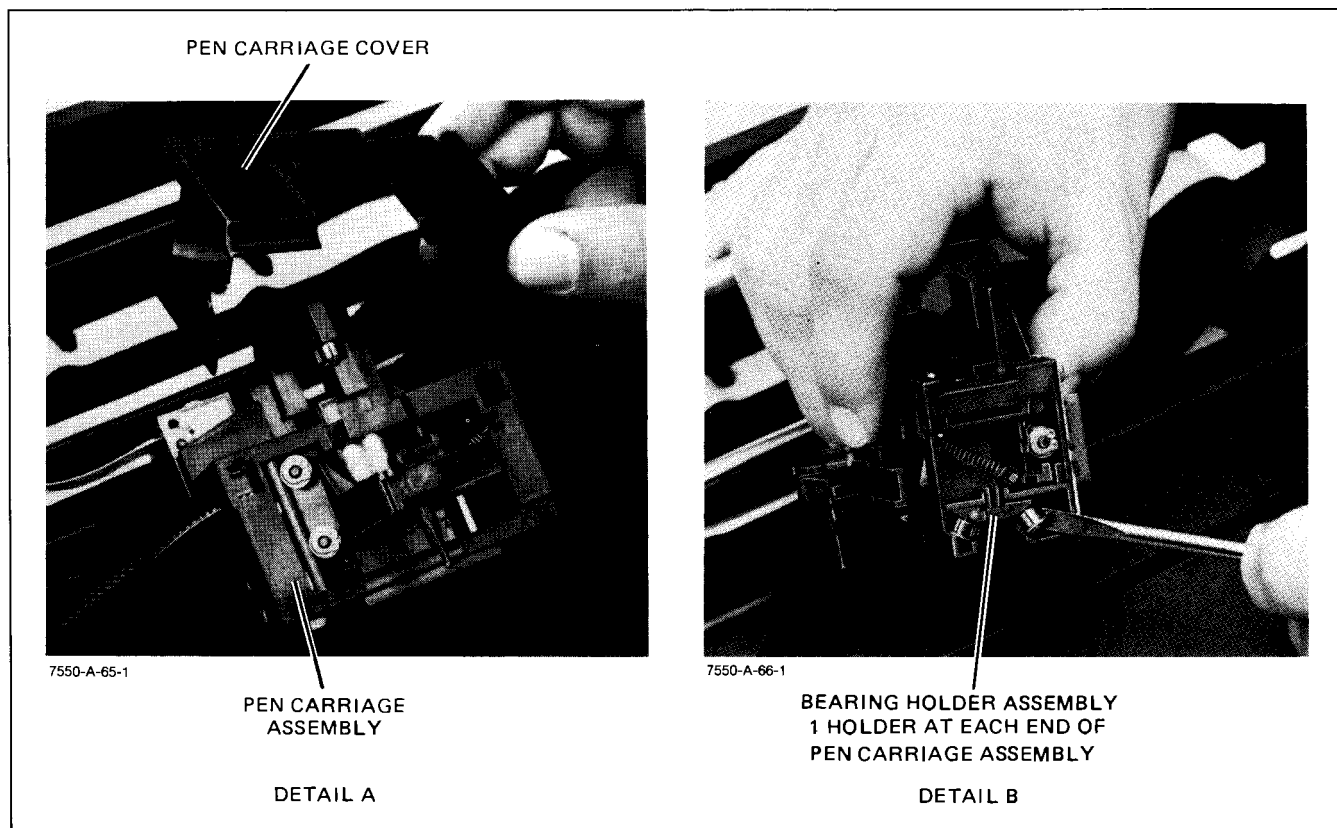

Figure 6-24. Pen Carriage Bearing Holder Removal
- d. Remove the pen carriage cover. Carefully pry the sides of the cover away from the pen carriage assembly and slide the cover upward to remove. Push the pen holder down if necessary. See Figure 6-24, Detail A.
- e. Carefully pry or pull the bearing holders from the pen carriage. See Figure 6-24, Detail B.